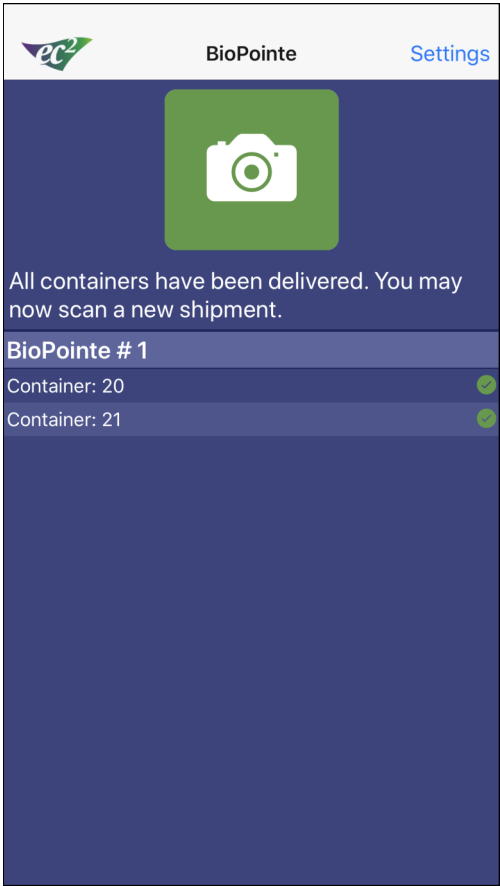

Fig 10
- i. After all deliveries have been completed, BioPointe clears its database and prepares for the next shipment delivery. The driver will be prompted to **“Scan Driver Badge to Login”** to start the next shipment. However, if there is a non existing or low signal at the facility, upon completion the driver will see the message displayed on Fig 10. At this point, it is essential not to exit from BioPointe to ensure proper case delivery update in RMIS. Once in range, the message will automatically clear after a few minutes.